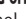

Fig. 18 Front passenger front airbag switch/warning lamp for disabling the front passenger airbag.
- the airbag is disabled, signalled with the warning lamp **OFF**  which lights up with the word **PASSENGER AIR BAG OFF**  placed in the centre part of the dash panel **»» Fig. 18** .
- Insert the key into the slot of the switch for deactivating the front passenger airbag **»» Fig. 18**. About 3/4 of the key should enter, as far as it will go.